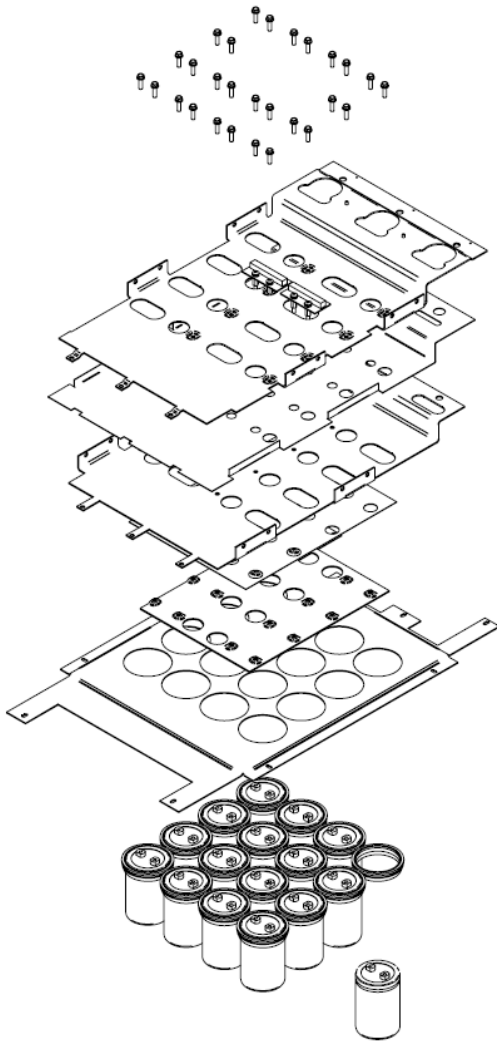

Figure 7.13. Disassembly of the Bus capacitors.
Follow the *figure 7.13* while reading these instructions:
- 2) Insert the middle Bus (*figure 7.13*).
- 5) Insert the Bus (-) (*figure 7.13*).
- 8) Insert the Bus (+) (*figure 7.13*).